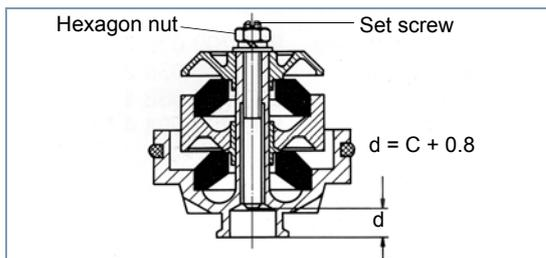

Fig. 5 Dimension d (Device with two rubber springs)
- Counter set screw by turning seizing the hexagon nut (see fig. 5).
- i** The adjustment levels off also at devices with longer graduation travel (two rubber springs), see fig. 5.